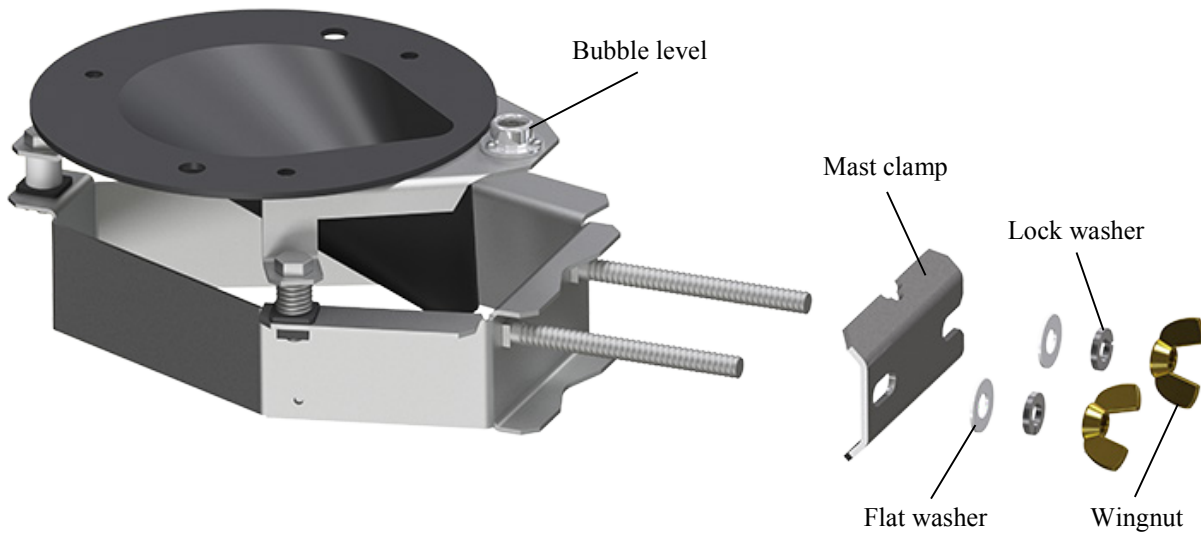

FIGURE 6-7. Exploded view of CM270 mounting hardware (TE525WS not shown)
2. Loosen the mounting bracket's wingnuts and slide the assembly over the pipe. If necessary, the pole mounting hardware can be removed to get the bolts around the pipe. If this is necessary, to reassemble, put the mast clamp on first followed by the flat washer, lock washer, and wingnut. See FIGURE 6-7.